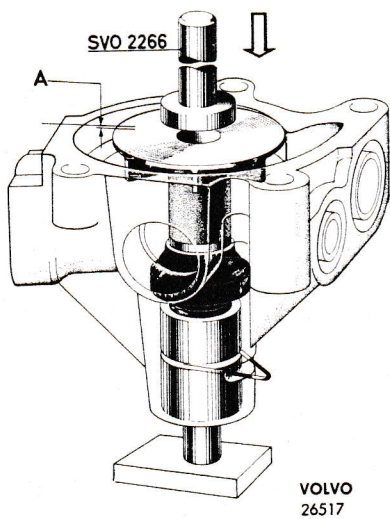

Fig. 80. Fitting the impeller
3. Press down the impeller with tool SVO 2266 so far that the impeller is level with or up to 0.016" (0.4 mm) below the pump housing surface. The lower end of the shaft should rest against a counterhold. See Fig. 80.